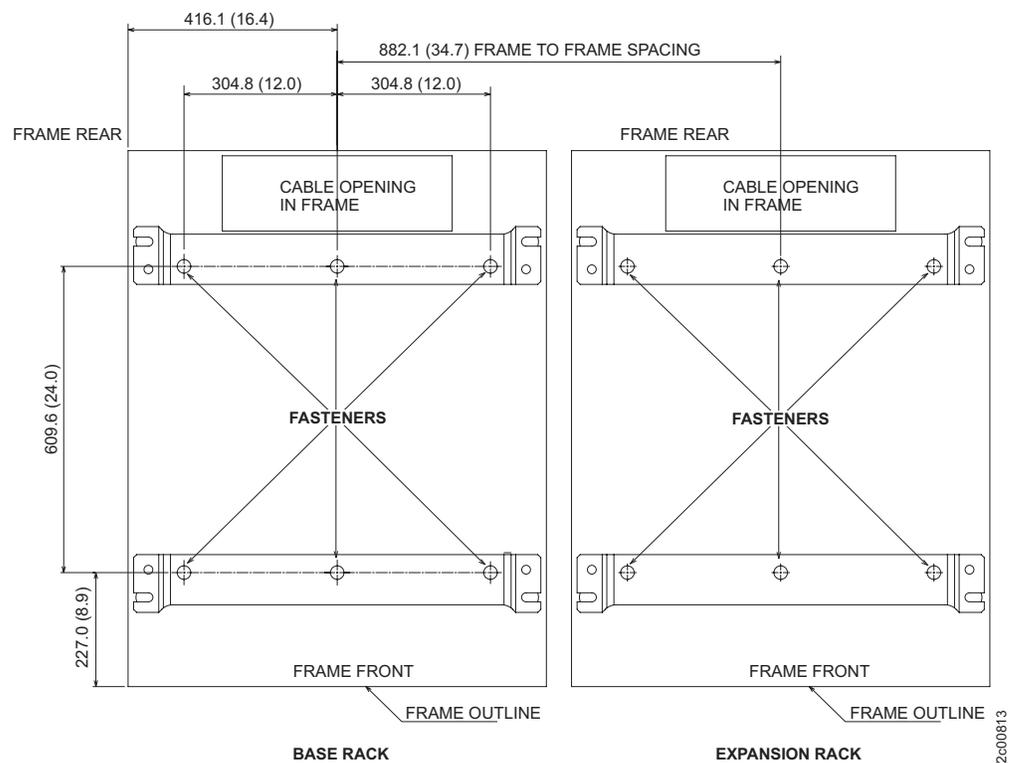

Figure 29. Locations for fastener installation (nonraised floor). Dimensions are in millimeters (inches).
- Use Figure 29 to determine the placement of the fasteners.